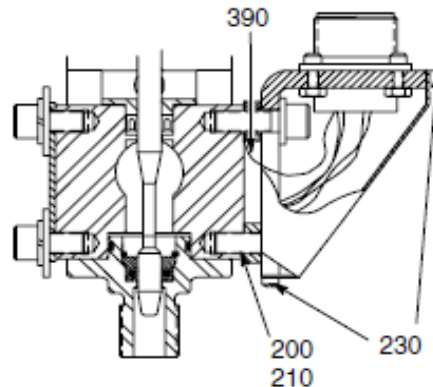

FIG. 13
5. Reconnect the cable receptacle to the automatic dispense valve. See FIG. 13.
- b. Ensure the ground wire (380) is connected to the bracket (330).
- c. Connect the receptacle to the dispense valve body. Then secure it with the two socket head screws (200) and washers (210).
- d. Reattach the receptacle cover. Then secure it with the two screws (230).